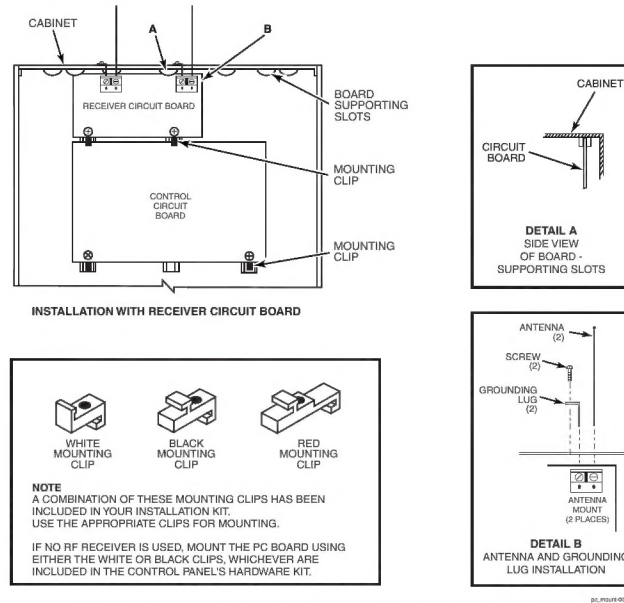

Figure 3. Mounting the PC Board and RF Receiver
1. a. Remove the receiver board from its case, then insert the top of the board into the slots at the top of the cabinet, as shown in Detail A in Figure 3 on the next page. Make sure that the board rests on the correct row of tabs.